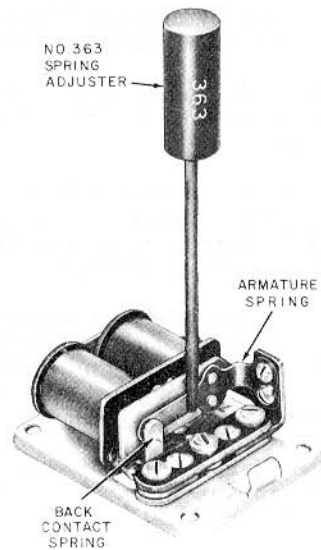

Fig. 18—Adjusting Armature Spring
4.10 The contact separation of buzzer and bell operated on direct current is approximately 0.005 inch when armature is held manually against pole face. Adjust as required by applying a No. 363 spring adjuster close to base of the spring as shown in Fig. 18. Give adjuster a slight twist in direction desired. Take care not to kink spring.**4.11** Armature spring tension may be adjusted as follows.